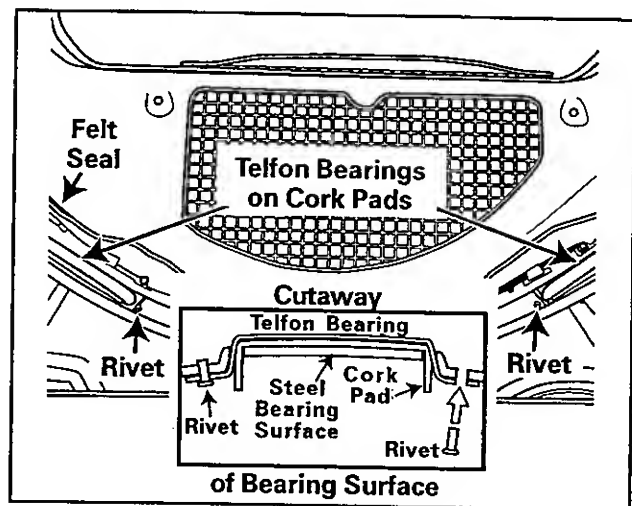

Figure 10-5
- Drill out the old rivets and rivet new bearings in place. In positioning the bearing and cork pad, the face of the bearing should ride against the tumbler (*Figure 10-5*).